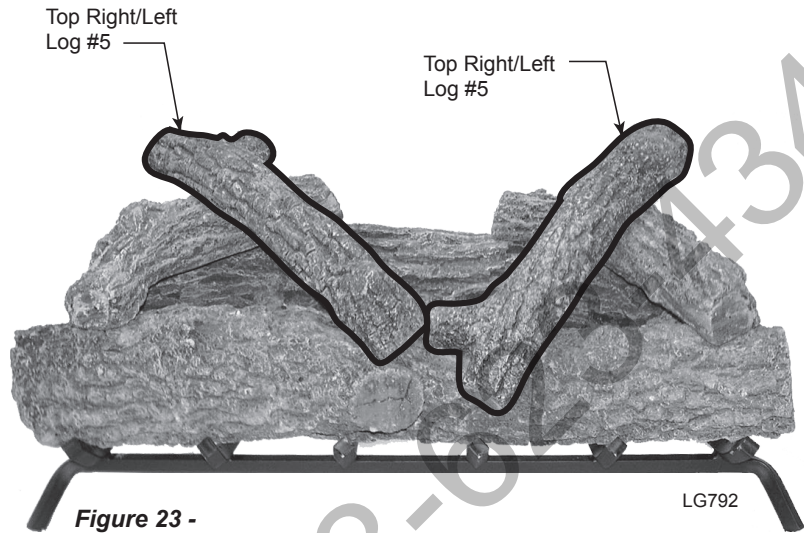

Figure 23 - Place Two (2) Top Right/Left Logs #5
5. Place Top Right/Left Log #5 on Log #4 and Log #1. *Figure 23*
6. Place Top Right/Left Log #5 on Log 4 and Log #1. *Figure 23*